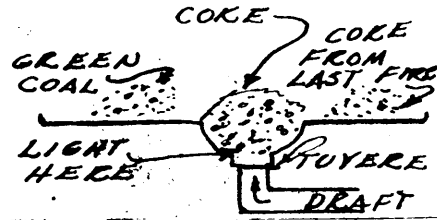

Figure 1.
5. Lift shavings slightly from side of fire pan and place lighted match there as shown in Figure 1.